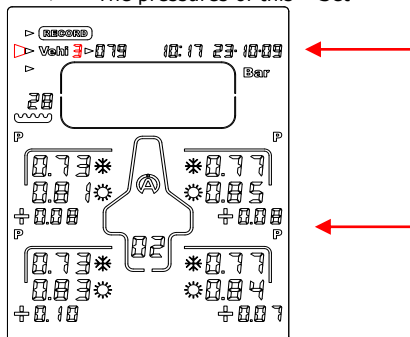

Figure 2
- 2) With the button  or  select the icon « **Vehi** » (figure 2)
- 3) With the button  or  select the vehicle wanted (5 to the total) (figure 2)